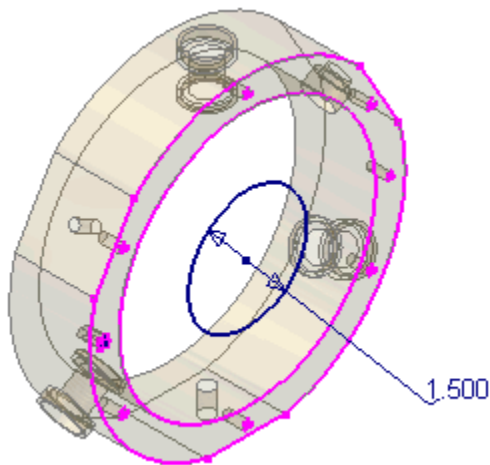

Figure 5: Sketch circle.
7. Finally, add a 1.5-inch diameter sketch circle centered on the ring as shown in Figure 5.